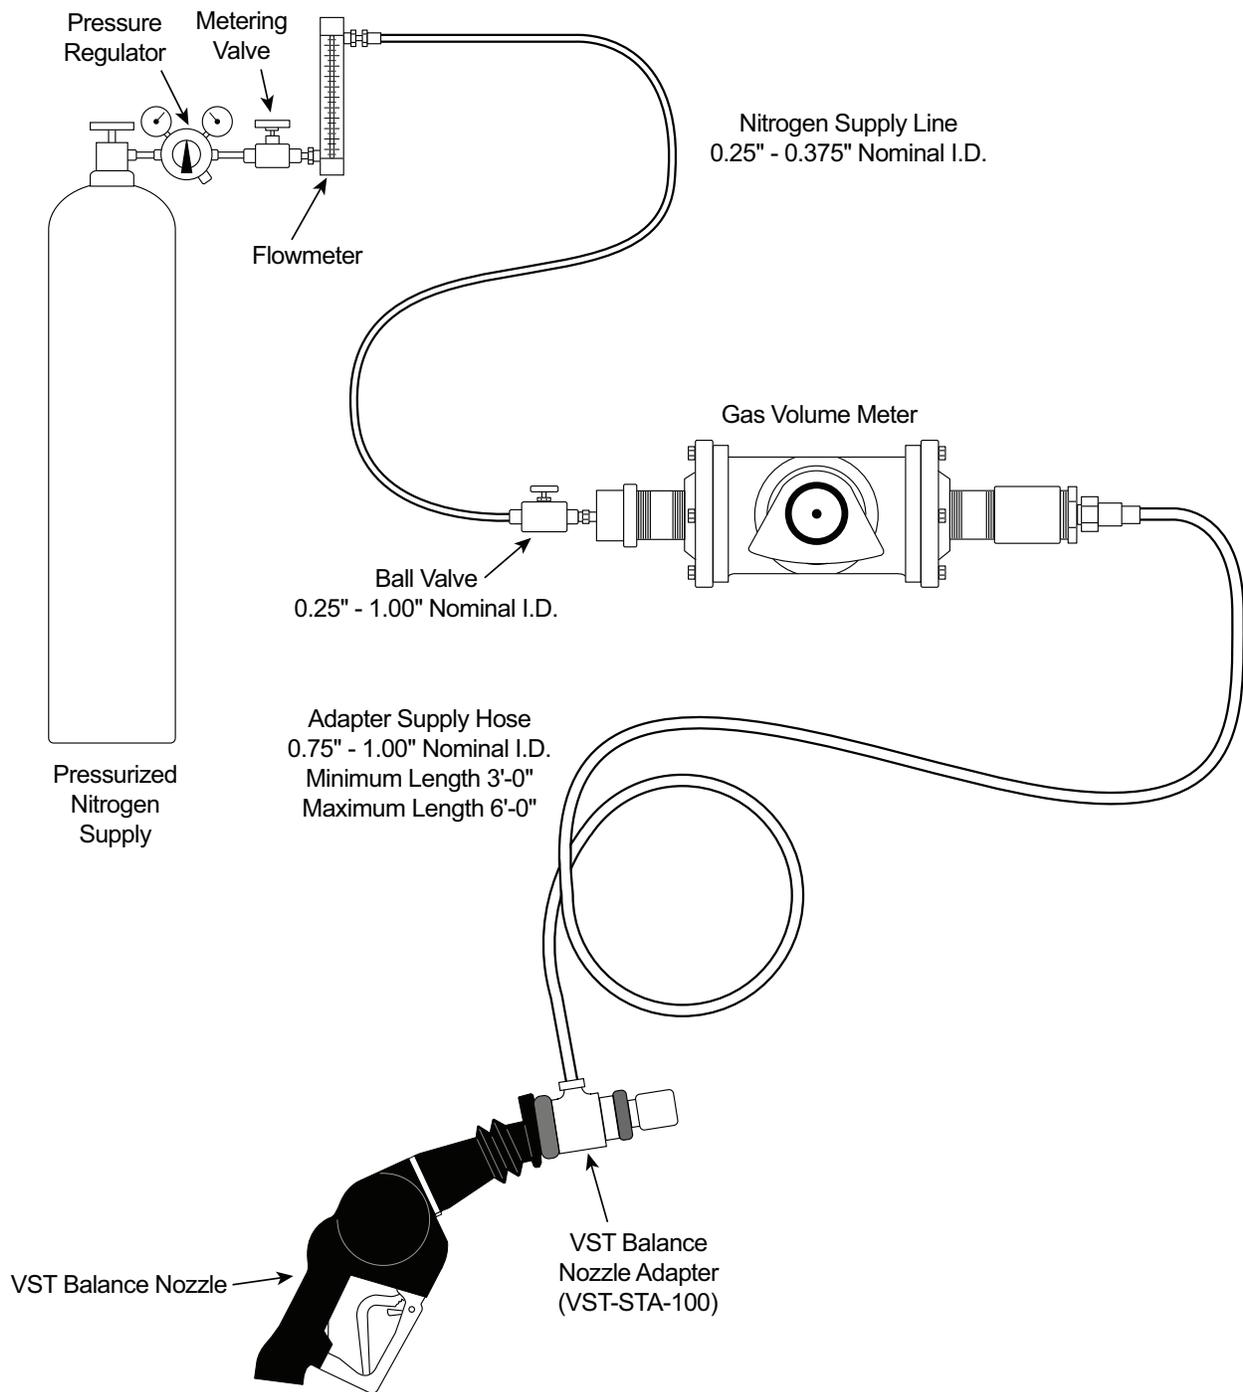

Figure 24. Vapor Flow Meter Test Assembly
4. Assemble the equipment as shown in Figure 24, Vapor Flow Meter Test Assembly. Leave the Balanced Nozzle Adaptor off of the nozzle at this time. Do not enable the dispenser to dispense product. Remove nozzle and utilize any method to keep the nozzle hook in the off position.